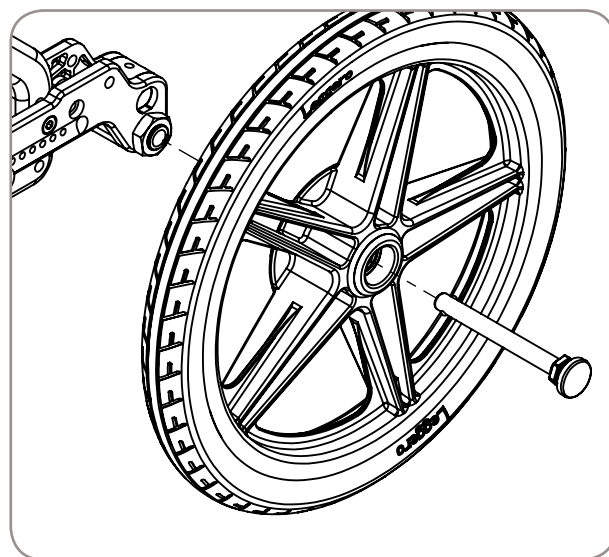

Figure 1
4. Install rear wheels, reference Figure 1.